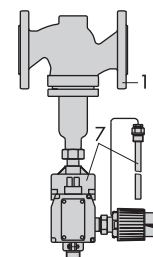
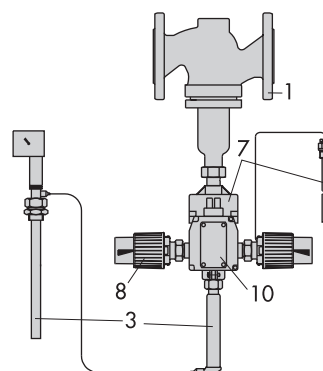

Fig. 8 · Temperature regulator and safety temperature limiter (TR/STL) with control and safety thermostat, Type 2114/2231/2212
Fig. 9 · Temperature regulator, safety temperature limiter and pressure limiter (TR/STL/PL), Type 2114/2231/2212/2401
The control thermostat, additionally attached to the safety thermostat, functions in the combinations TR/STL (Fig. 8) and TR/STL/PL (Fig. 9) as a temperature regulator (TR) and the pressure element (Type 2401) as a pressure limiter (PL).